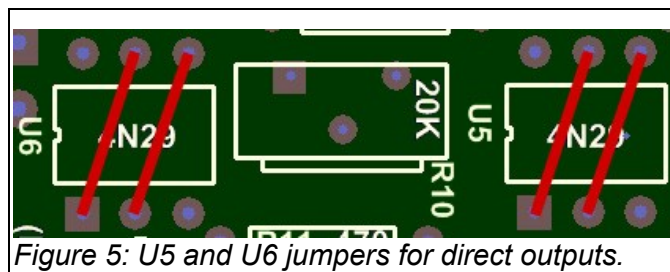

Figure 5: U5 and U6 jumpers for direct outputs.
- Refer to Table 1 above. If the J2 output type is "direct," use component lead cutoffs to install jumper wires in the U5 location: Pin 1 to pin 5; pin 2 to pin 4. Follow the red lines in Figure 5, below. Insert the bare wires into the designated holes, then **solder**. Cut off the excess leads on the back side of the PCB.
- Refer to Table 1 above. If the J4 output type is "direct," use component lead cutoffs to install jumper wires in the U6 location: Pin 1 (square pad) to pin 5 (middle of opposite row); pin 2 to pin 4. Follow the red lines in Figure 5. Insert the bare wires into the designated holes, then **solder**. Cut off the excess leads on the back side of the PCB.